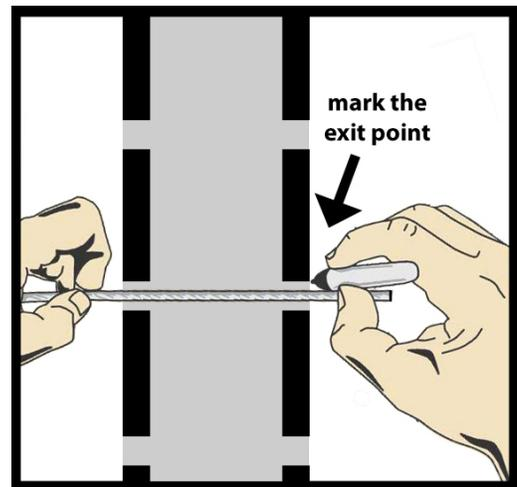

Fig 4
- 4:2) Push the raw cut end of the cables through all the drilled holes of the run and pull all the slack out of the cables. Mark the exit points, where the cable emerges on the outside face of the last terminal post. (Fig 4) Remove cables from the holes and place on the deck surface or similar flat surface. Do not unlace from the intermediate posts.
- 1) Disassemble SWAGELESS RECEIVER, careful not to lose internal parts, and install onto cable (Fig. 4)